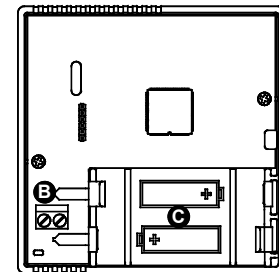
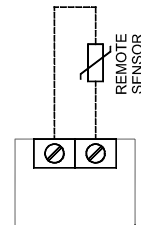

Fig. 6
Fig. 7
4 - Insert the batteries (respecting the correct polarity) in the battery compartment (C in Fig. 6); use only alkaline, brand new batteries.
- Connect the remot sensor (if present) using the 'REMOTE SENSOR' connector (B in Fig. 6), according to the wiring diagram shown in Fig. 7; then remember to set properly the parameter P10. Read the section 'INSTALLER CONFIGURATION'.